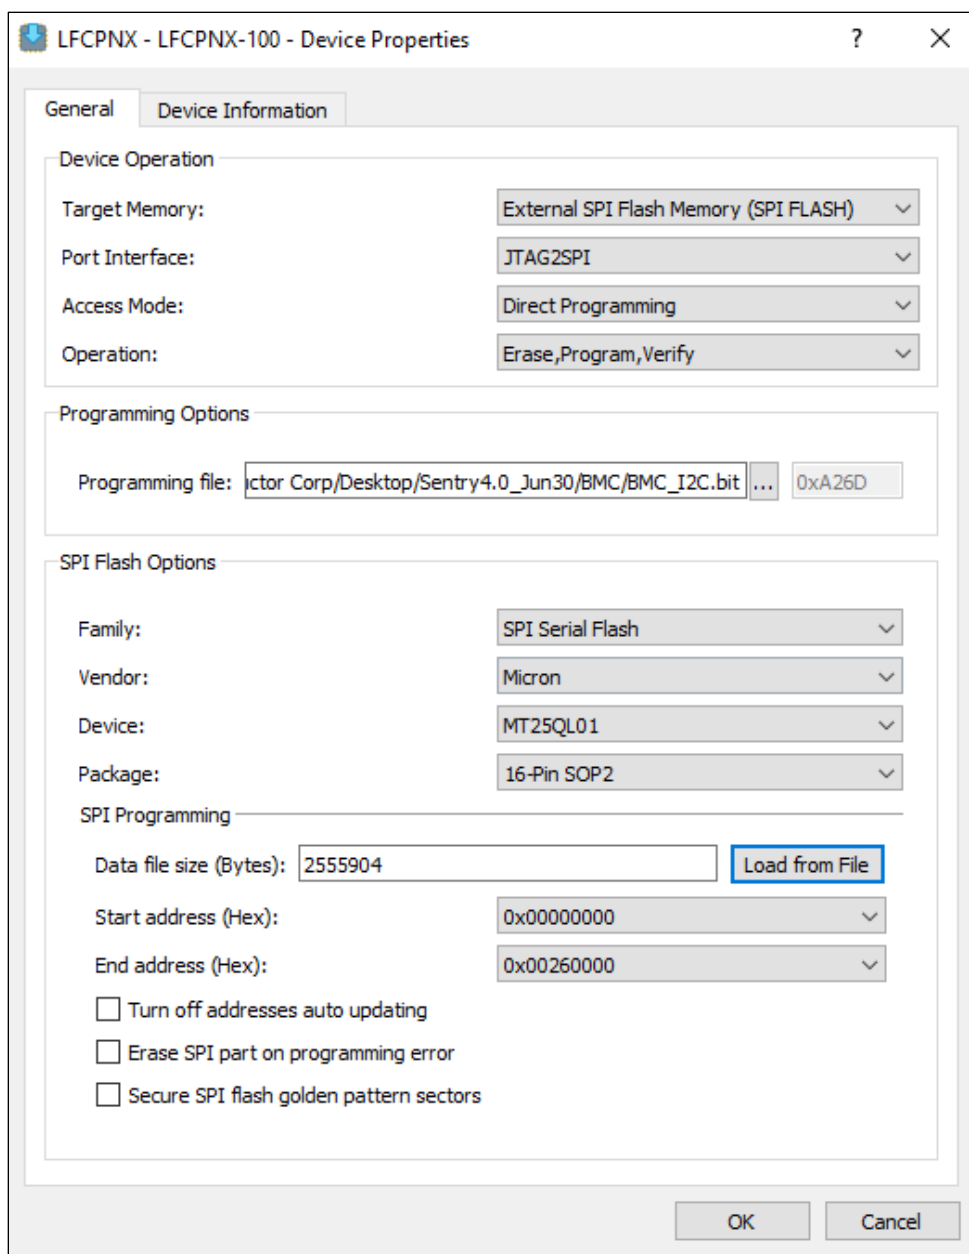

Figure 8.3. CertusPro-NX Device BMC Image Programming Options
12. Select the following SPI Flash Options (Figure 8.3):